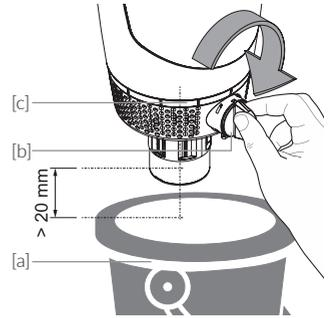

Fig. 8.1
From the upper edge of the collecting vessel [a] to the lower edge of the drain funnel = min. 20 mm distance according to **DIN EN 1717** (Fig. 8.1). Water can splash out of the collecting vessel at high network pressure, water damage to objects in the vicinity is possible!
- / Turn the backwash handle [b] in the direction of the arrow by 90° (Fig. 8.1) and start the backwash process.
- / to relieve the pressure, turn the backwash handle [b] 90° in the direction of the arrow as described in chapter 8 Backwashing, Fig. 8.1